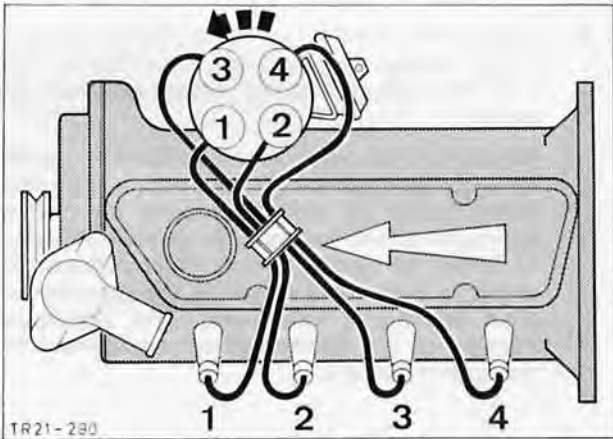

Fig. 184. HT leads (firing order)
10. Connect HT leads to spark plugs, Fig. 184, refit air cleaner. Connect earth strap to battery.